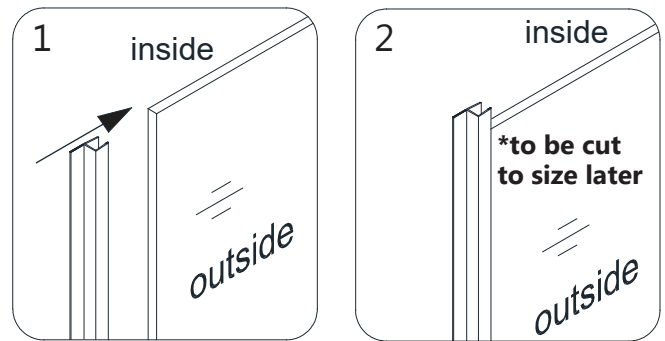

Fig 2
2. Press the **180° Strike Vinyl (#19)** onto the vertical edge of the **Panel Glass (#11)**. (This will protect the edge of the panel glass and allow for proper spacing with the door glass). **(Fig 2)**